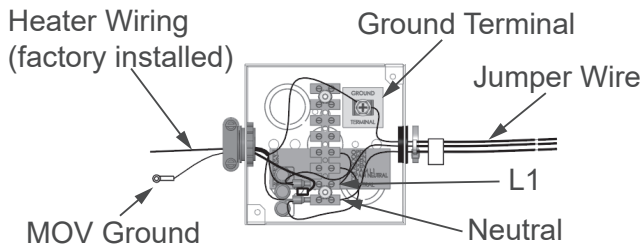

Figure 73. Power Supply Connections
The 120 VAC hot wire from the power supply must connect to the black jumper wire or the “L1” terminal block location in the junction box and the 120 VAC neutral wire must connect to the white jumper wire or the “Neutral” terminal block location in the junction box for correct polarity. See **Figure 73**.
4. Connect the 120 VAC hot wire from the power supply to the black jumper wire or the terminal block location marked “L1” inside of the junction box located on top of the water heater. If the black jumper wire is used, make the connection inside of the junction box with a properly sized wire nut and wrap electrical tape around the wire nut and wire end. See **Figure 73** (page 54) and wiring diagrams, **Figure 88** (page 102), **Figure 89** (page 103), and **Figure 90** (page 104).
5. Connect the 120VAC neutral wire from the power supply to the white jumper wire or the terminal block location marked “Neutral” inside of the junction box located on top of the water heater. If the white jumper wire is used, make the connection inside of the junction box with a properly sized wire nut and wrap electrical tape around the wire nut and wire end. See **Figure 73** (page 54) and wiring diagrams, **Figure 88** (page 102), **Figure 89** (page 103), and **Figure 90** (page 104).
6. Connect the ground wire from the power supply to the green jumper wire or the ground terminal location inside of the junction box located on top of the water heater. If the green jumper wire is used, make the connection inside of the junction box with a properly sized wire nut and wrap electrical tape around the wire nut and wire end. See **Figure 73** (page 54) and wiring diagrams, **Figure 88** (page 102), **Figure 89** (page 103), and **Figure 90** (page 104).